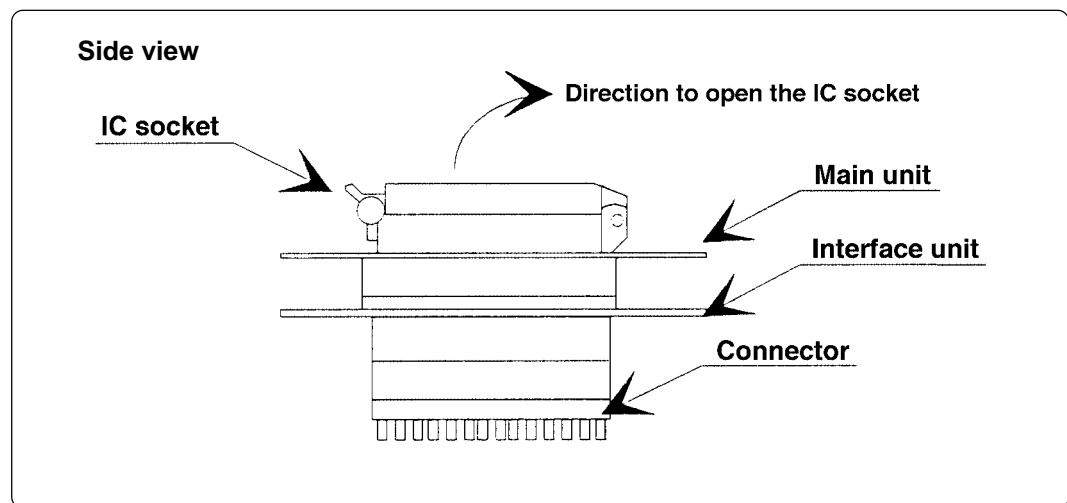

Figure 3.4 Opening the IC socket
- When opening and closing the IC socket, hold the adapter horizontally as shown in Figure 3.4. Otherwise the inside of the IC socket may become damaged and cause an electrical insulation failure.